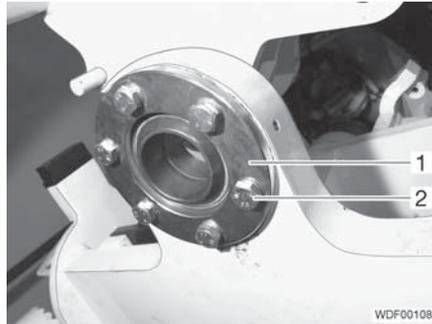

Fig. 292 Securing the lower bearing
- Coat the thread of the screws (Fig. 292,2) with locking agent.
- Put the perforated disk (Fig. 292,1) in position.
- Screw in and tighten the 6 screws (Fig. 292,2).